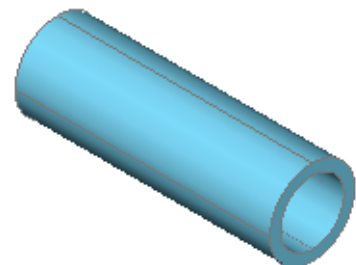

Figure Step 6A
Step 6 Using what you just learned, click the Shell option again but this time, create a pipe with a 0.25 inch wall thickness. You will have to remove both ends of the pipe. See the command below. (Figure Step 6A, 6B, and 6C)